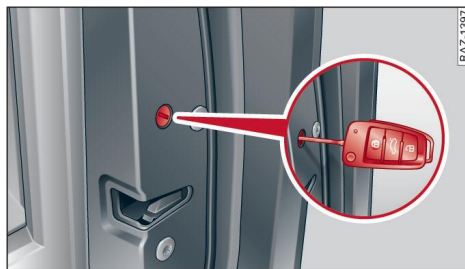

Fig. 23 Door: Locking the door manually
- If necessary, pull the cap out of the opening ⇒ *Fig. 23*.